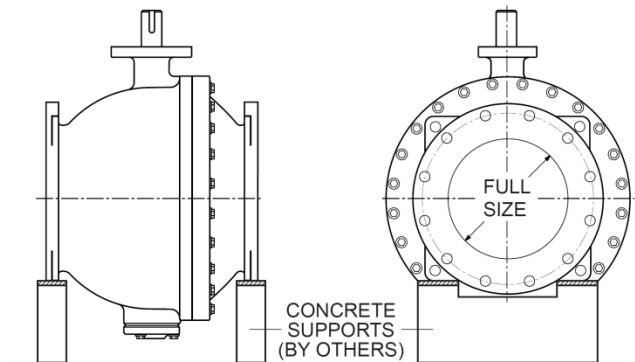

FIGURE 5. Support Valve Weight
VALVE SUPPORT: The valve is designed with integrally cast pads for lifting and supporting the weight of the valve on a suitable hanger, support, or concrete pier. The support system should be designed to support the weight of the valve and not the axial motion of the piping system, see Figure 5.
2. Valves are to be installed in accordance with these instructions. To maintain the integrity of the valve, it is important to avoid subjecting the valve to pipe loads that could drive the valve out of round. The valve is designed for vertical support from a concrete support or similar structure, see Figure 5. The valve support pads should not be anchored to the concrete support but instead rest on a slide plate to avoid axial pipe loads. Piping to and from the valve should be adequately supported and controlled. Piping design requirements should include allowable flange loadings, thermal expansion and contraction, and differential settlement.
6. Remove old packing (13) with packing hook.
9. With valve in the closed position, place actuator over valve and reinsert key (14).
TRAVELING NUT ACTUATOR MAINTENANCE: A typical traveling nut actuator is shown in Figures 5 and 6 and consists of a threaded nut (12) which travels back and forth on a threaded stem (14). The stem is lubricated with EP2 grease in a cast iron housing (1). The nut, in turn, drives a slotted lever (4) through 90 degrees of travel. The lever (4) drives the valve shaft with a square key. The rotation of the shaft is displayed by the top indicator (19).